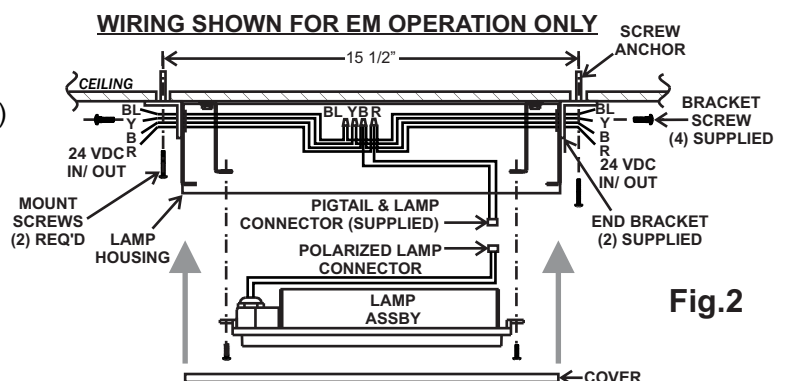

Fig.2
1. See Fig 2. Install (2) screw anchors at 15 1/2" centers.
2. Insert flat blade screwdriver under notch at end of cover, twist gently to release cover plate. Unscrew (4) #8 lamp assembly screws, lift lamp assembly from Housing and disconnect lamp plug.
3. Attach end brackets with (4) #8 screws and nuts as shown, mount housing assembly to ceiling and route 24VDC IN/OUT wiring from CBS branch circuit into housing.